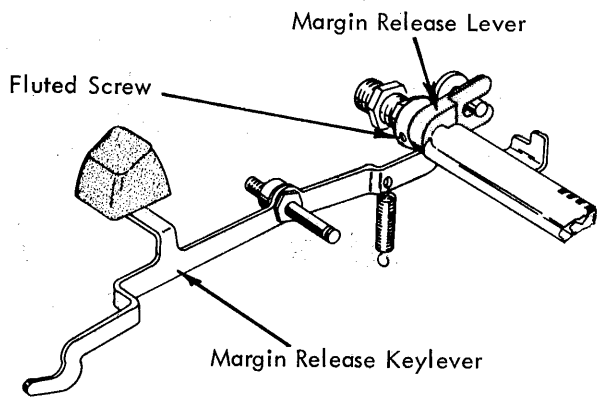

FIGURE 246. Margin Release Mechanism (11 Inch - Early)
- a. Early - With the margin release keylever at rest, loosen the fluted screw in the margin release lever and rotate the margin rack (within the release lever) to a level position (Fig. 246). Then tighten the Bristol screw.